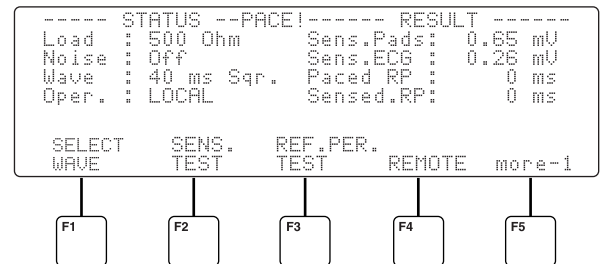

Figure 29. Sens. Test Results
4. Upon completion of testing, the results appear under **RESULT** as shown in Figure 29. Press **SENS. CANCEL (F5)** to cancel the test.